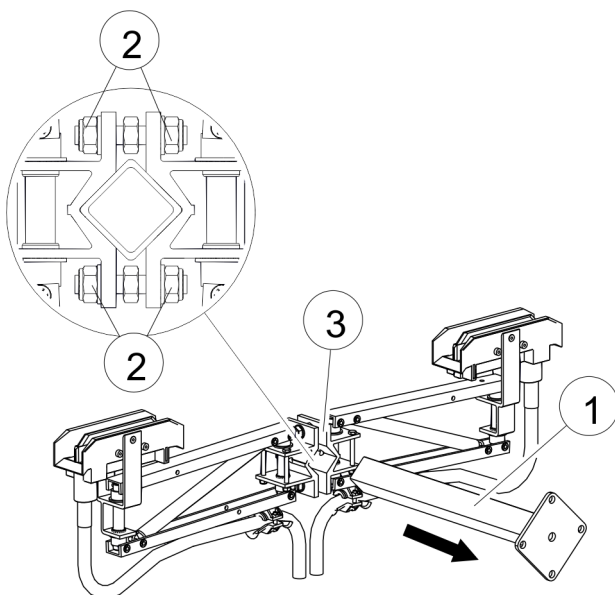

Fig. 119: Mount the towing arm
- Tension the towing arm (Pos. 1) in the middle support (square) (Pos. 3) of the current collector. At the same time, gradually tighten the outer M10 nuts (Pos. 2) in alternation with an SW 17 torque wrench (torque for galvanized: **30 Nm**, torque for stainless steel: **20 Nm**) (see Fig. 119). Pay attention to the tolerances and instructions provided above.